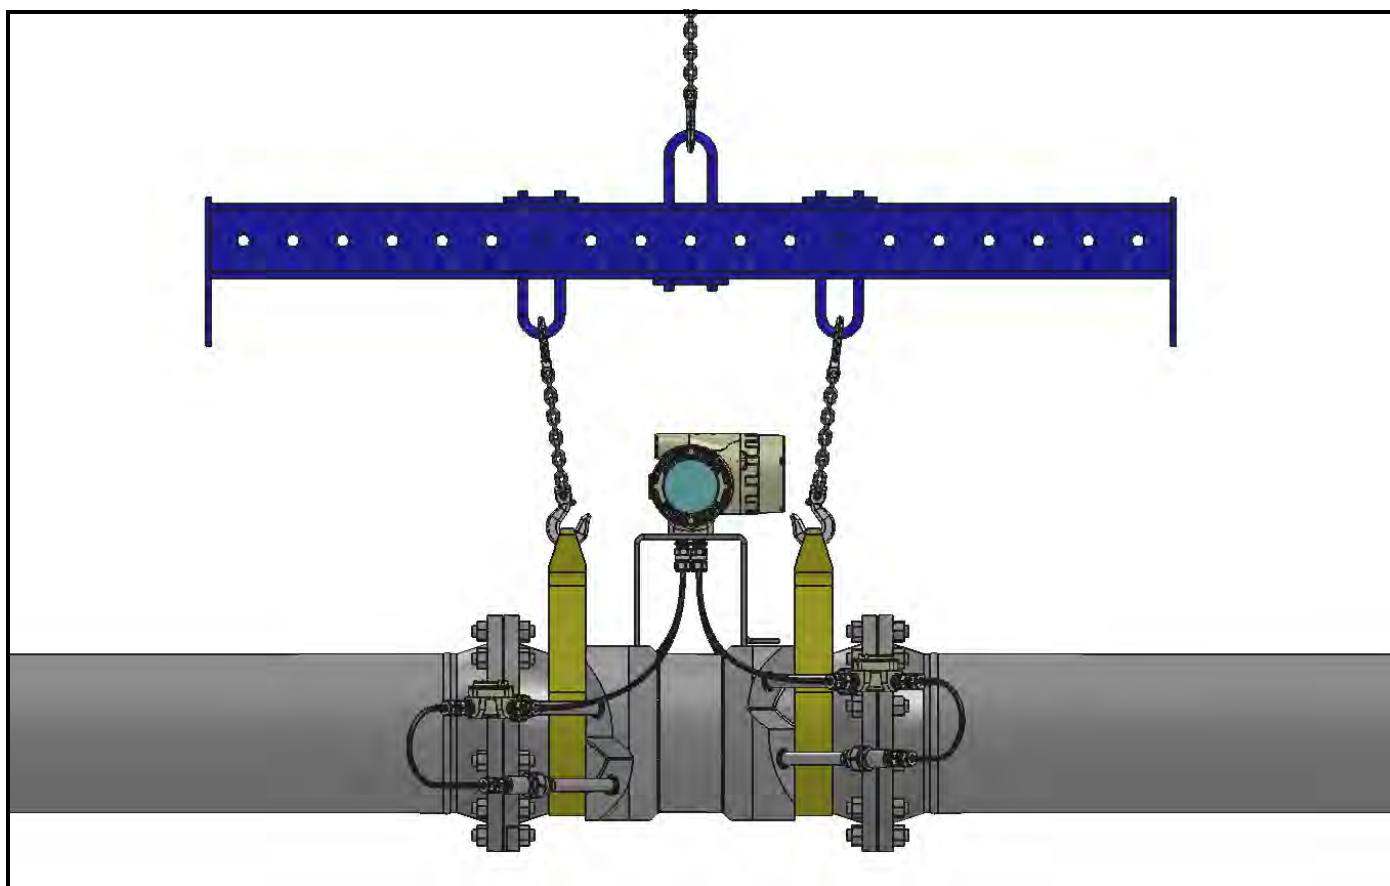

Figure 9: Lifting Strap Locations
CAUTION! To avoid possible strain, refer to the **Sentinel LCT** label for the assembly weight, use a properly-rated lifting assembly, and place the lifting straps in the indicated locations (see Figure 9 below).
- Make sure the **Sentinel LCT** is oriented with the flow transmitter in a vertical position at the top (see Figure 9 below).